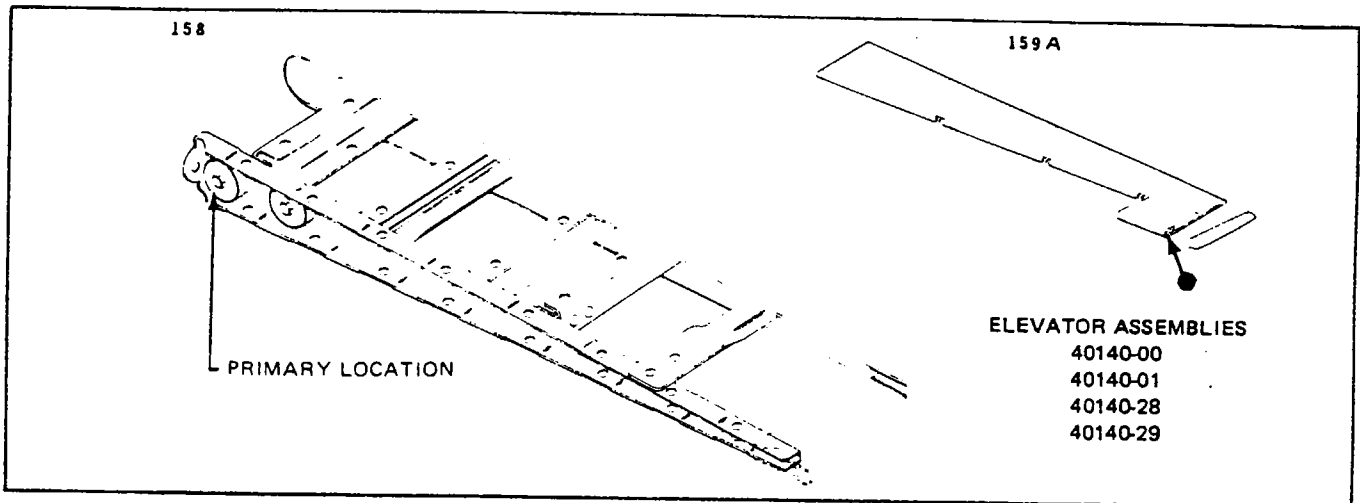

Figure 4-17. Elevator Trim Weight Installation
- (c) A trim weight attachment point is provided on the outboard rib at approximately one inch aft of the leading edge. (Refer to Figure 4-17.) Weights are installed, not to exceed two per anchor nut, with the proper length AN3 bolts. Should it be necessary to install an additional third and fourth weight (per elevator), a second attachment point is provided at approximately 2.75 inches aft of the rib leading edge. Distribute the weights evenly between both elevators. (Should the second attachment anchor nut not be provided, it may be installed per instructions given in Paragraph 4-93.)